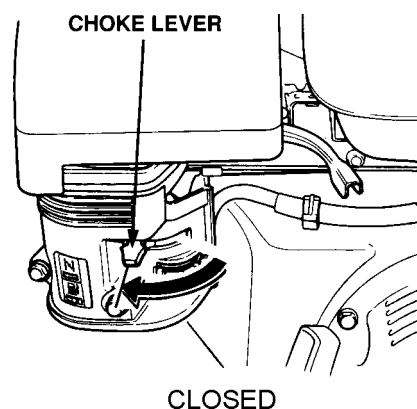

Figure 9. Engine Choke Lever (Closed)
4. Place the **choke lever** (Figure 9) in the "CLOSED" position if starting a **warm engine** or the **temperature is warm**.